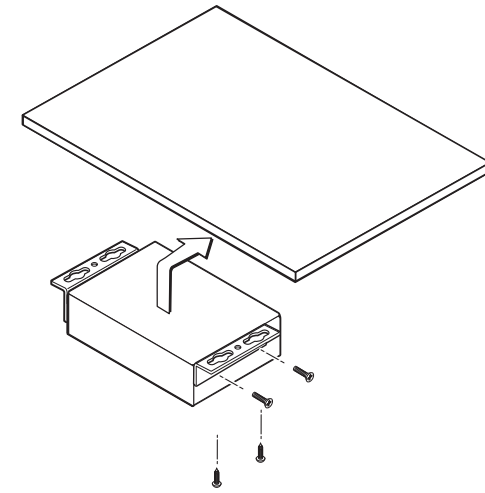

Figure 2-3 — Under-desk mounting
2. Secure the under-desk mounting brackets to the transceiver with the four machine screws provided in the mounting kit (figure 2-3).